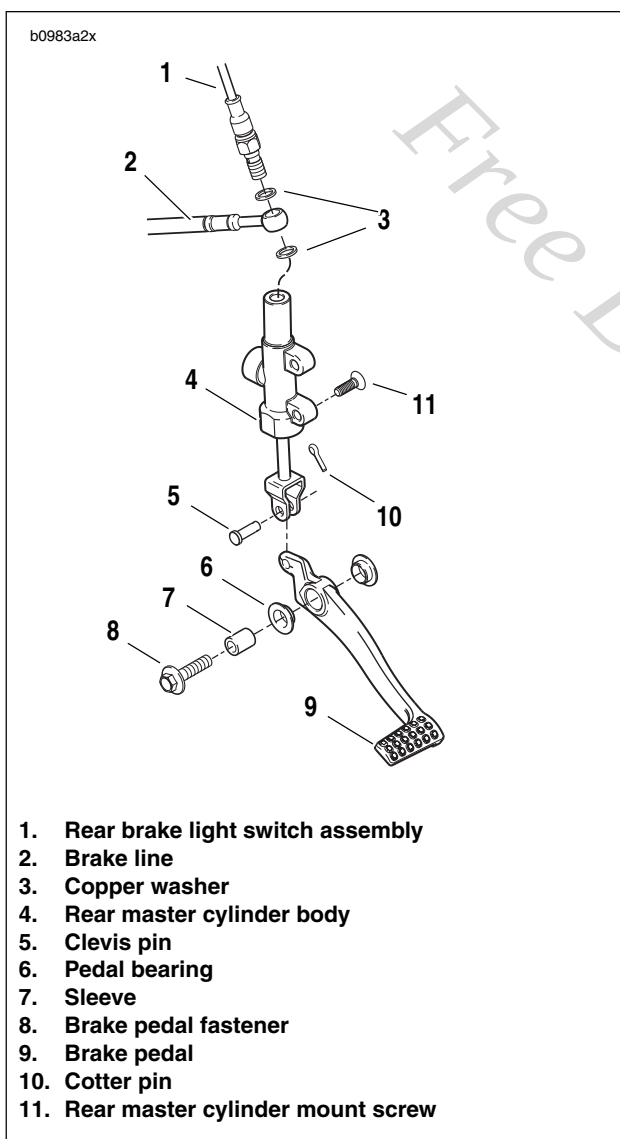

Figure 2-51. Rear Master Cylinder Assembly
7. See Figure 2-51. Remove rear brake light switch (1) (metric) and two copper crush washers (3) to detach brake line (2) from master cylinder (4). Discard copper crush washers.
9. See Figure 2-51. Remove fasteners (11) (metric) to detach master cylinder (4) from rider footpeg mount.
1. See Figure 2-51. Install master cylinder (4) onto footpeg mount with fasteners (11). Tighten to 72-96 **in-lbs** (8-11 Nm).
2. Install rear brake switch (1) and banjo bolt (2) and **new** copper crush washers (3). Tighten to 16-20 ft-lbs (22-27 Nm).